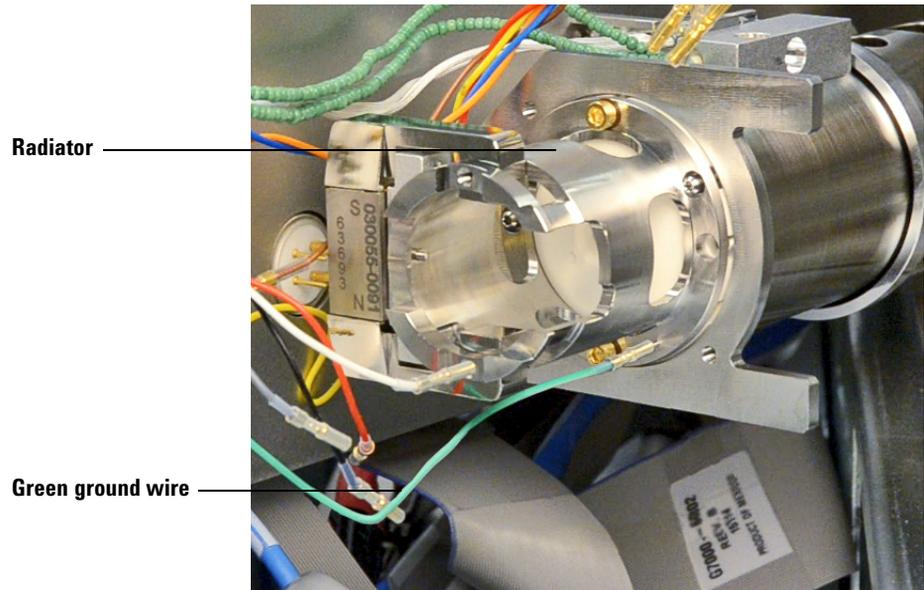

Figure 66 CI Source radiator
- 2 Connect the green ground wire to the radiator. (See Figure 66.)